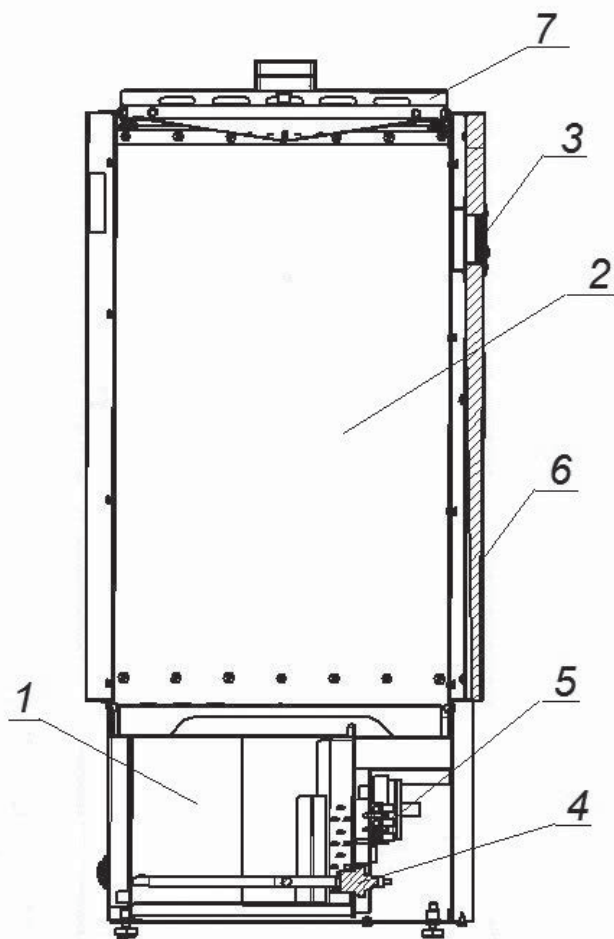

Figure: 2. External view of the steamer in section
- Tank for boiling water (item 1, fig. 2).
- Container for brooms (pos. 2, fig. 2).
1.4.4 In the lower part of the Product there is a stainless steel tank (pos. 1, fig. 2) with a heating element installed in it (pos. 4, fig. 2). Above the tank there is a container for brooms (item 2, fig. 2) made of stainless steel and lined with wooden slats (item 6, fig. 2). The water tank and the broom container are separated by a perforated grid. The broom container is closed with a lid (pos. 7, fig. 2).
1.4.5 On the front side of the Product there is a control panel with an indicator and buttons (pos. 3, fig. 2). The indicator shows in percentage display from 220 V the value of voltage supplied to the heating element installed in the water tank of the steam generator and serving to heat the water. The buttons below the indicator allow adjusting the power level of the water.
heating element from 0% to 100%. The water heating control unit (pos. 5, fig. 2) and terminals for electrical connection are located behind the front decorative panel of the base.